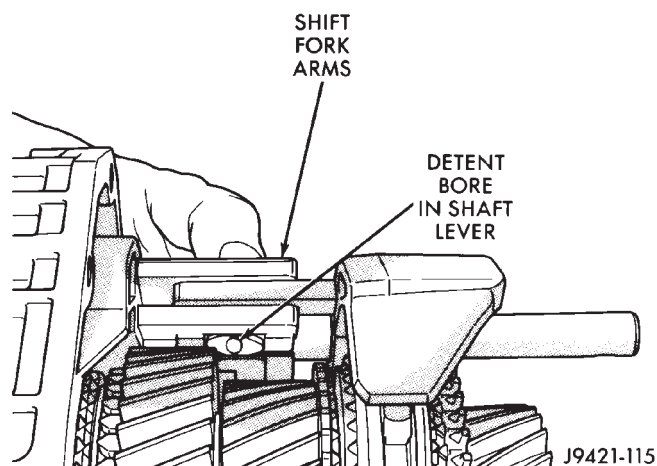

Fig. 114 Shaft Lever Positioned For Detent Ball and Spring Installation
(15) Verify that notches in shift fork arms are aligned (Fig. 114). Realign arms if necessary.
(16) Rotate shaft lever and bushing downward (out of fork arms), to expose detent bore in lever (Fig. 114).